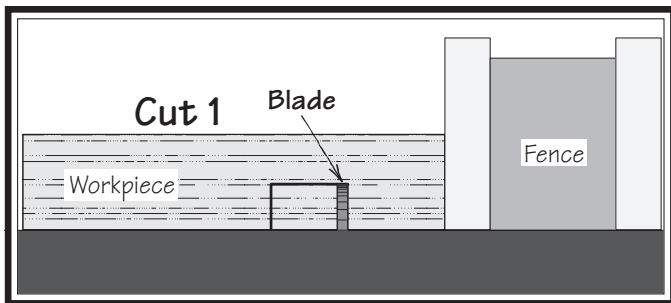

Figure 73. First cut for a single-blade dado.
5. Align blade to cut one side of dado, as shown in **Figure 73**.